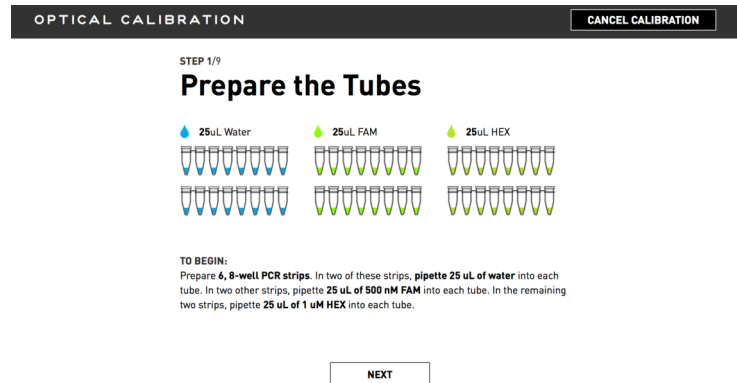

Figure 3.13
4. The screen will prompt you to prepare 6 new 8-well PCR tube strips (Figure 3.13). Gather the previously prepared strip solutions and select **Next**.